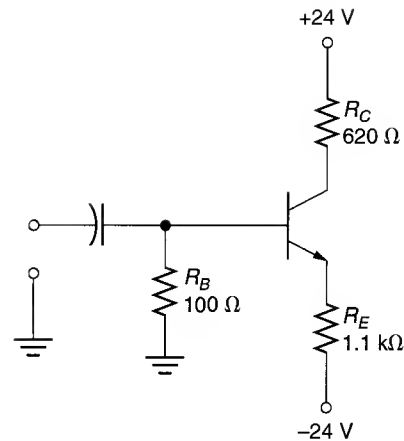

FIGURE 7.46
52. The 2N3904 transistor cannot be used in the circuit shown in Figure 7.46. Why not? (Hint: Consider the dc load line for the amplifier and the *maximum ratings* shown in the 2N3904 spec sheet in Section 6.5.)